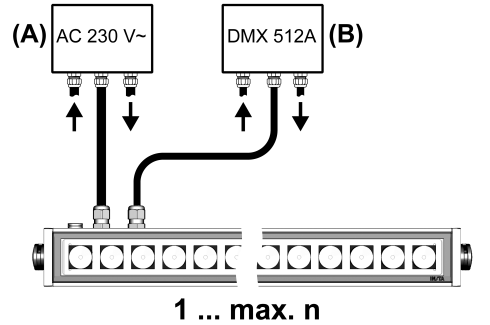

Figure 6: Connection overview (variant 'L')
- The terminals must be provided with an additional cover by the customer in order to meet the requirements for double or reinforced insulation as well as a degree of protection suitable for the installation environment. Place mains connection (A) and data connection (B) into separate boxes (Figure 6).